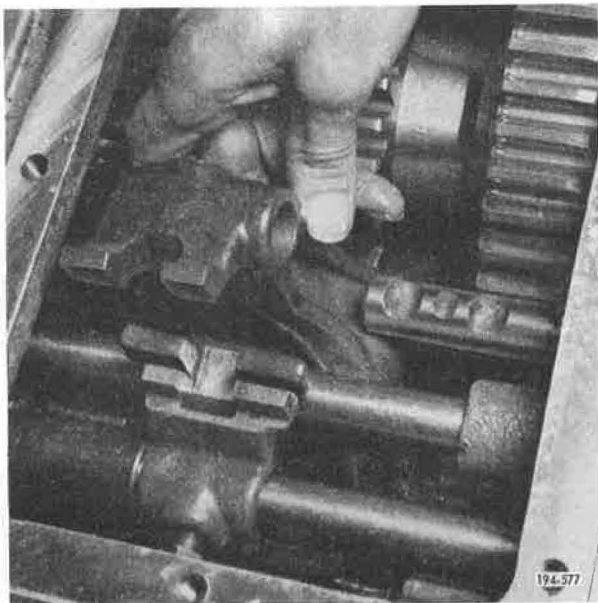

Figure 5-543. Installing Shift Rail
16. Slide fourth/fifth speed shift rail through front of case, into and through hub of fourth/fifth speed shift fork, into intermediate bore of case, until rail reaches neutral position. See Figure 5-543.